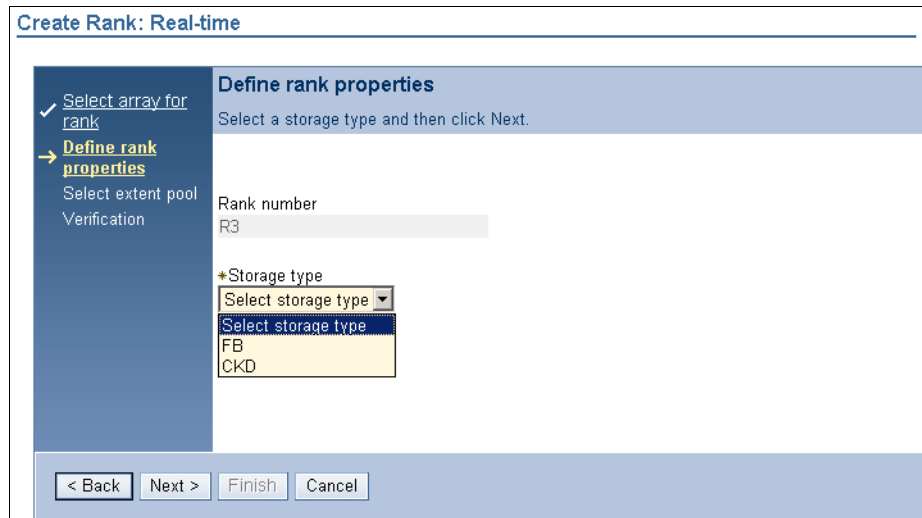

Figure 10-18 Define rank properties window
First, you have to select the Array from which you want to build the Rank. In our example, only one Array is available. If no Arrays are available you will have to go back to the Array window and create some. Click **Next** to define the Rank properties (see Figure 10-18).
In this window, you have to decide if you want to create a fixed block (FB) Rank for open system servers or a count key data (CKD) Rank for System z servers (see Figure 10-18). Click **Next** to proceed.